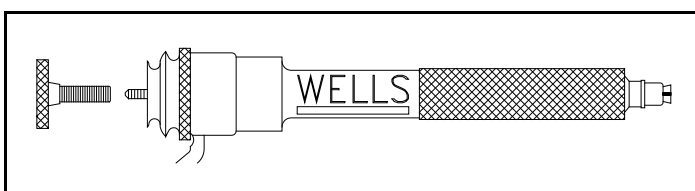

Figure 3.
3.3 Hold the collet all the way in so the threaded rod protrudes from the pulley. Engage the thumbscrew onto the threaded rod about 1/4 of a turn. See Figure 3.